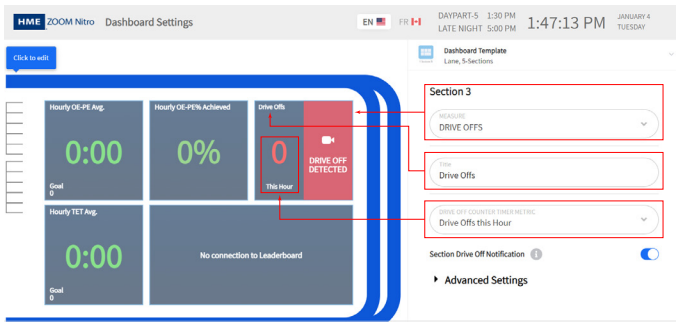

Fig. 6.1
2. Under the Dashboard Template, choose DRIVE OFFS from the drop-down menu of the first field "MEASURE." Give your section a Title, and finally choose a metric from the drop-down menu of the third field. See Fig. 6.1. Click the Save button to save your change.